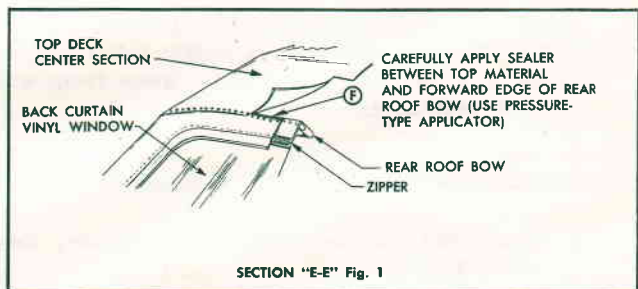

Fig. 8 Sealing Between Rear Roof Bow and Top
9. While silicone is drying, using a pressure-type applicator, very carefully apply a bead of sealer at forward edge of rear roof bow between bow and top material. Use sealer sparingly to avoid sealer from oozing out and presenting an unsightly appearance. See "F" in section "E-E", figure 8. NOTE: Allow approximately 30 minutes for sealer and silicone to dry before allowing stay pads to contact top material.